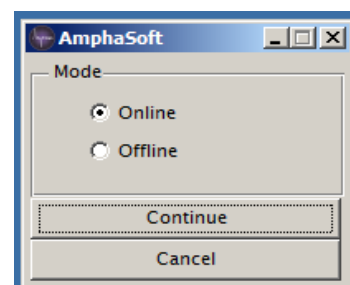

Figure 4: Selection of online or offline user mode.
- Select your user mode, **Online** if you are connected to the instrument and plan to perform a measurement, or **Offline**, if you want to load and analyse data obtained from a former experiment (Fig. 4).